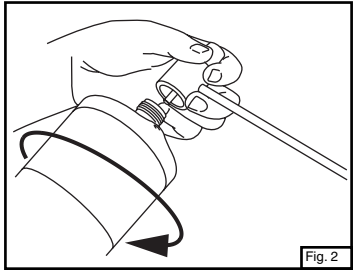

Fig. 2
- Remove plastic cap from top of propane cylinder and screw propane cylinder into regulator hand tight. (Fig. 2)